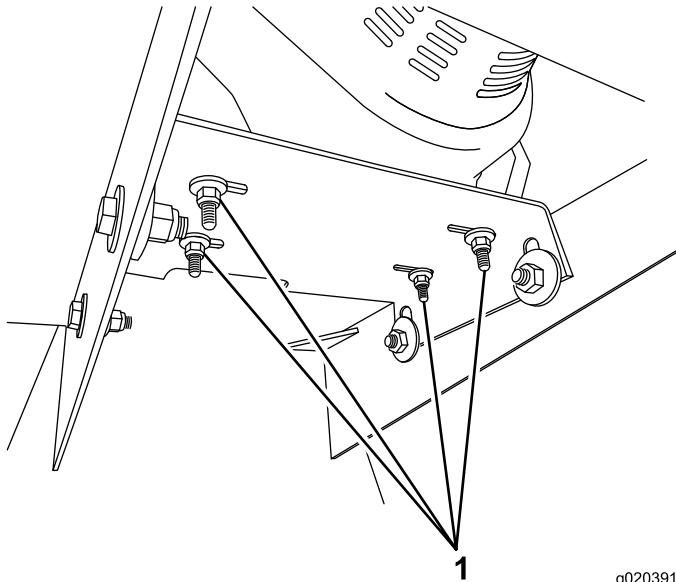

Figure 38
2. Remove the 4 nuts and bolts that secure the engine to the engine mounting plate (Figure 38).
1. Set the engine on the engine mounting plate, and align the bolt holes (Figure 38).